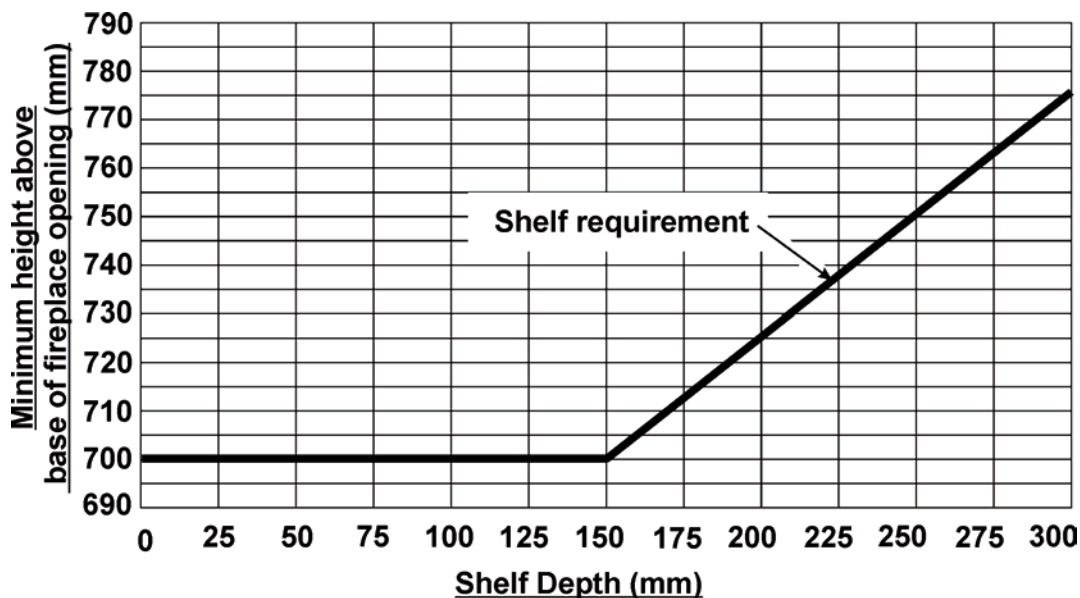

Figure 1. Combustible shelf clearances
Do provide a minimum clearance as shown in figure 1 above the base of the fireplace opening to any shelf made of wood or other combustible material. Please bear this in mind if you are making any alterations to the room.
- For a shelf deeper than 150mm: 700mm + 12.5mm for every 25mm depth over 150mm (See Figure 1).